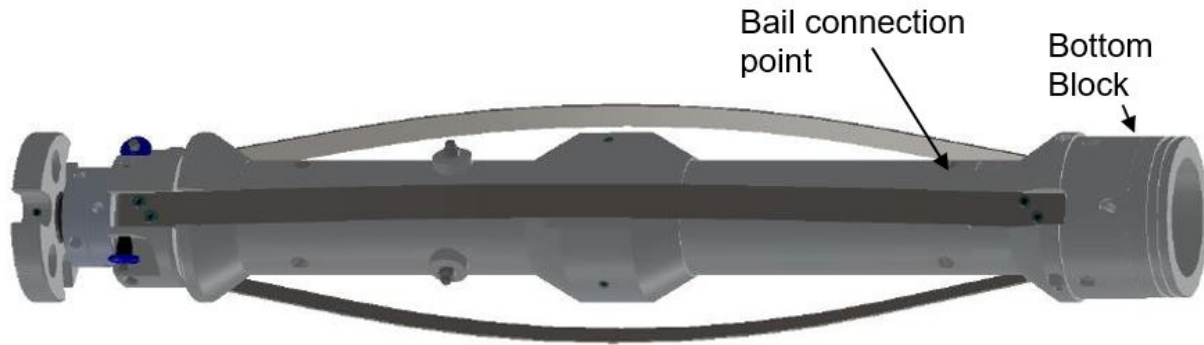

Figure 53. Anti-Torque Section
- Attach the (short) inner barrel to the booster pump using the short, curved core locks, Figure 53.